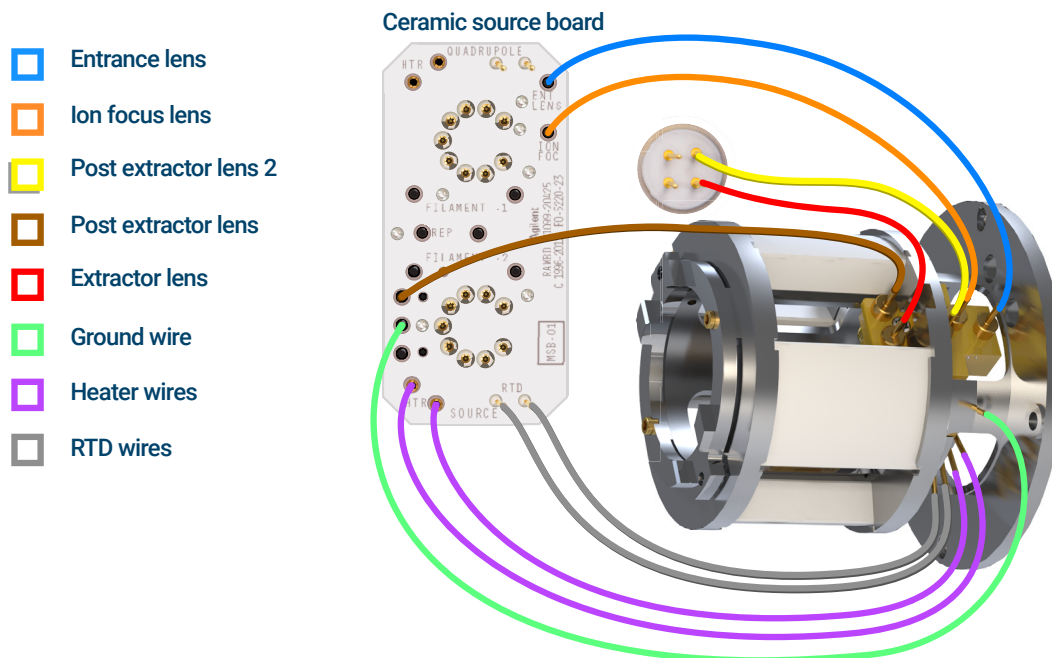

Figure 69. HES radiator wiring
- 1 Use tweezers or needle nose pliers to connect or disconnect the green ground wire and the five lens wires from the radiator. Do not bend the wires any more than necessary. (See **Figure 69**.)